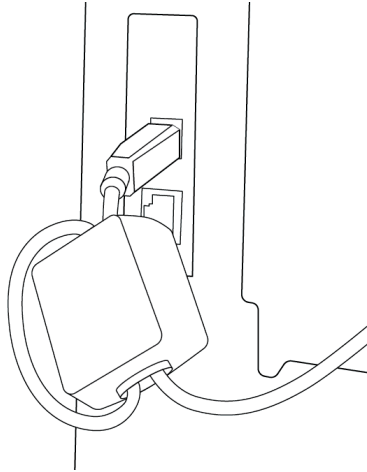

Figure 6-49. Ferrite installed on the printer's data cable
10. Install the ferrite (Würth Elektronik model 742 712 22) on the printer's data cable, looped a single time two inches from the end that will plug into the printer (Figure 6-49).